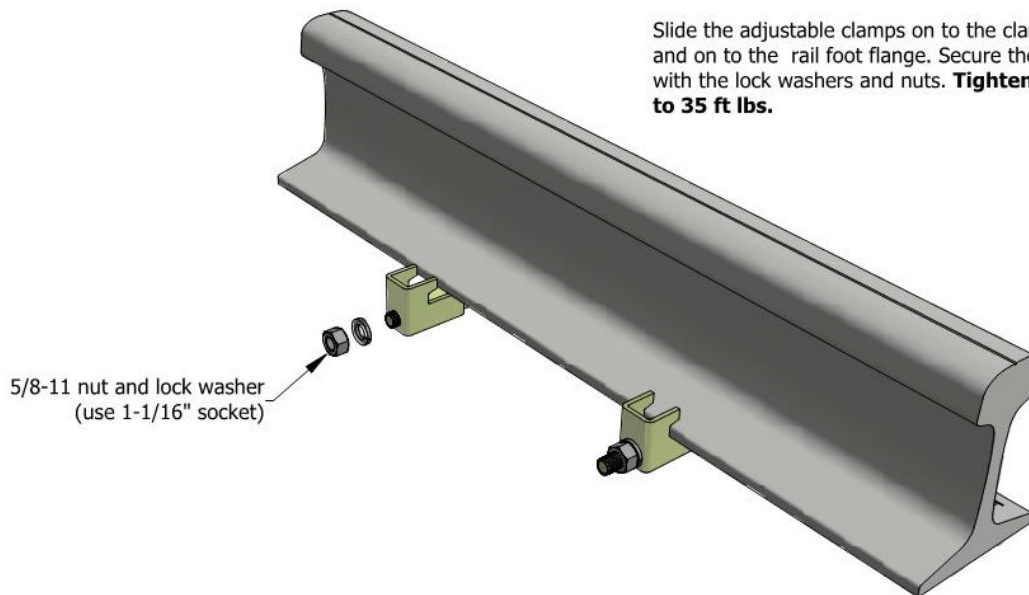

Figure 1
- 3 Per figure 1, mount the clamp bracket against the gauge side of the rail. Tighten the nuts to 35 ft-lbs.